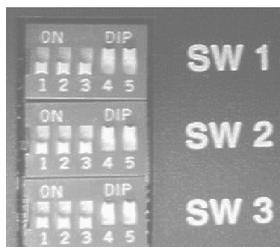

Figure 7. DIP Switches
There are three sets of five DIP Switches on the bottom of the UT3620 as shown in **Figure 7**, each corresponding to the appropriate line. The DIP Switches allow the user to adjust the S/T bus Terminating Resistor (TR) and S/T bus timing.